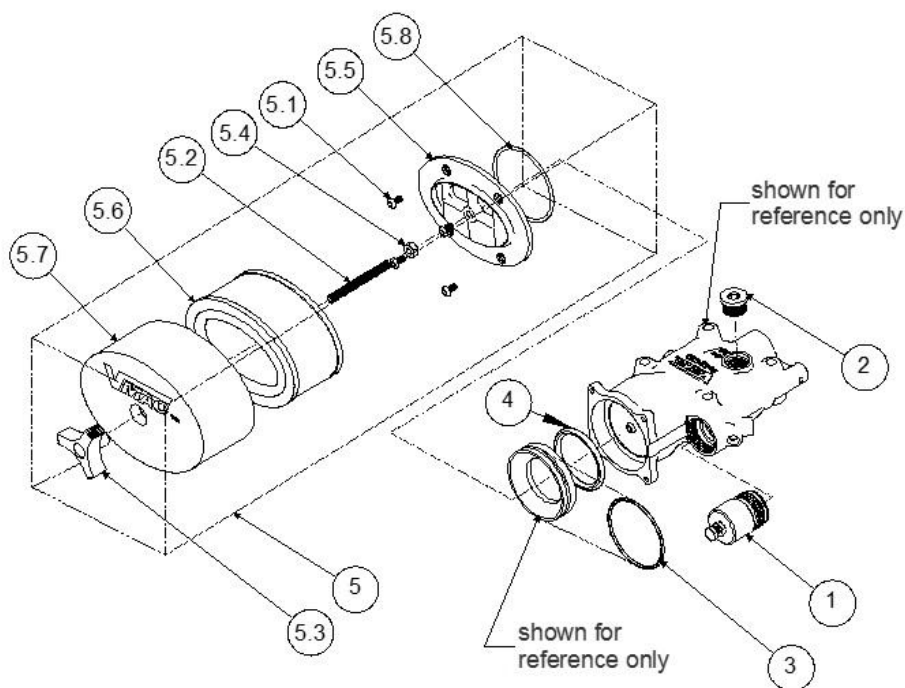

Figure 77 — Inlet Valve Sub Components
3. Inlet Valve Sub Components, 9200570 (Figure 77)